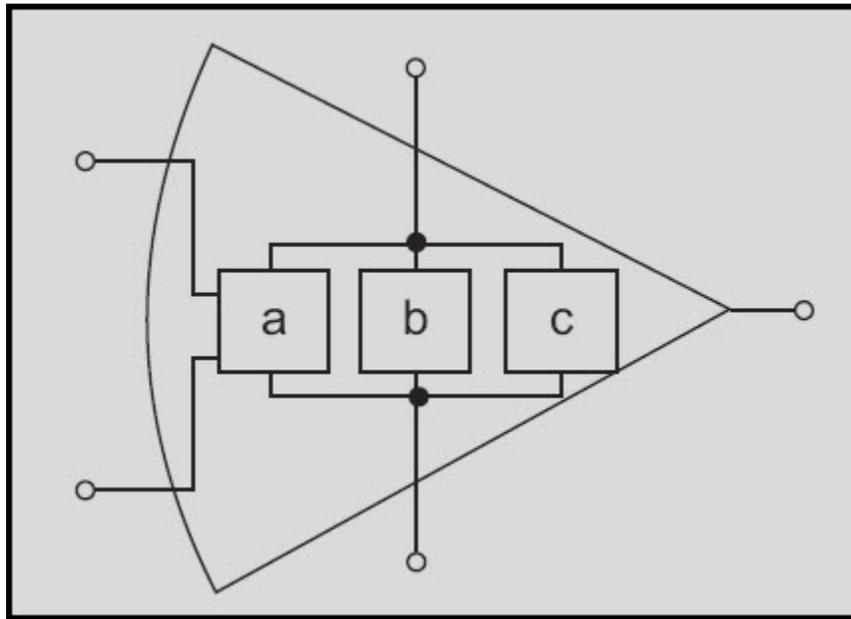

Figure 3-12 Operational amplifier
*Q-18. Label the parts of the operational amplifier shown in figure 3-12.*